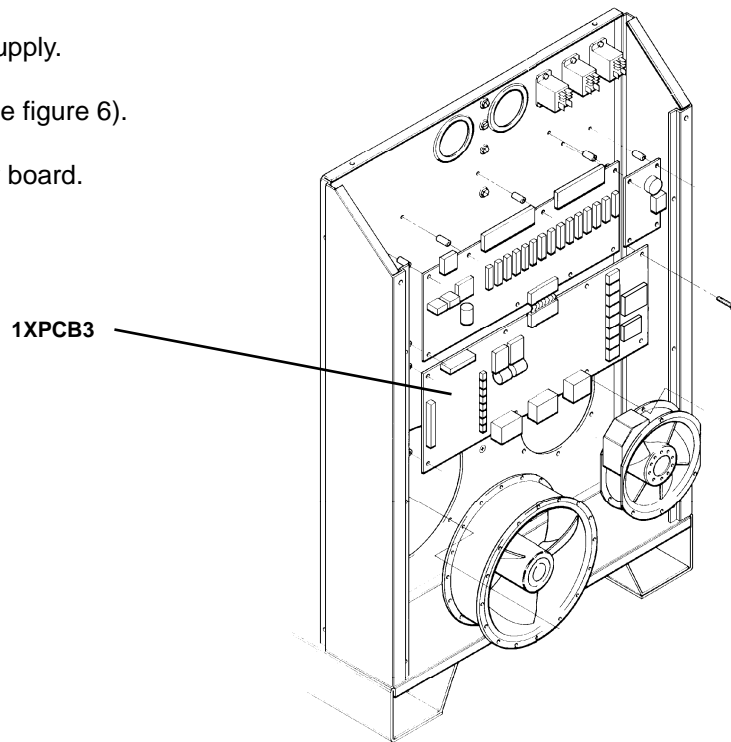

Figure 6 Power Supply Control Board 1XPCB3 and Firmware IC (U9) Locations
2. Locate control board 1XPCB3 (See figure 6).
4. Install 123387 jumper wire to Power Supply 1XPCB3 Control Board (Figure 6):